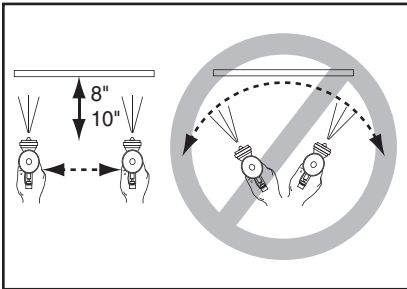

Figure 4. Spray technique.
9. Keep the gun tip perpendicular, parallel and 8-10" from the work at all times when spraying as shown in **Figure 4**. Do not allow your wrist to bend. This will cause the gun to arc across the surface and distribute the material unevenly, possibly creating sags and dry spots.